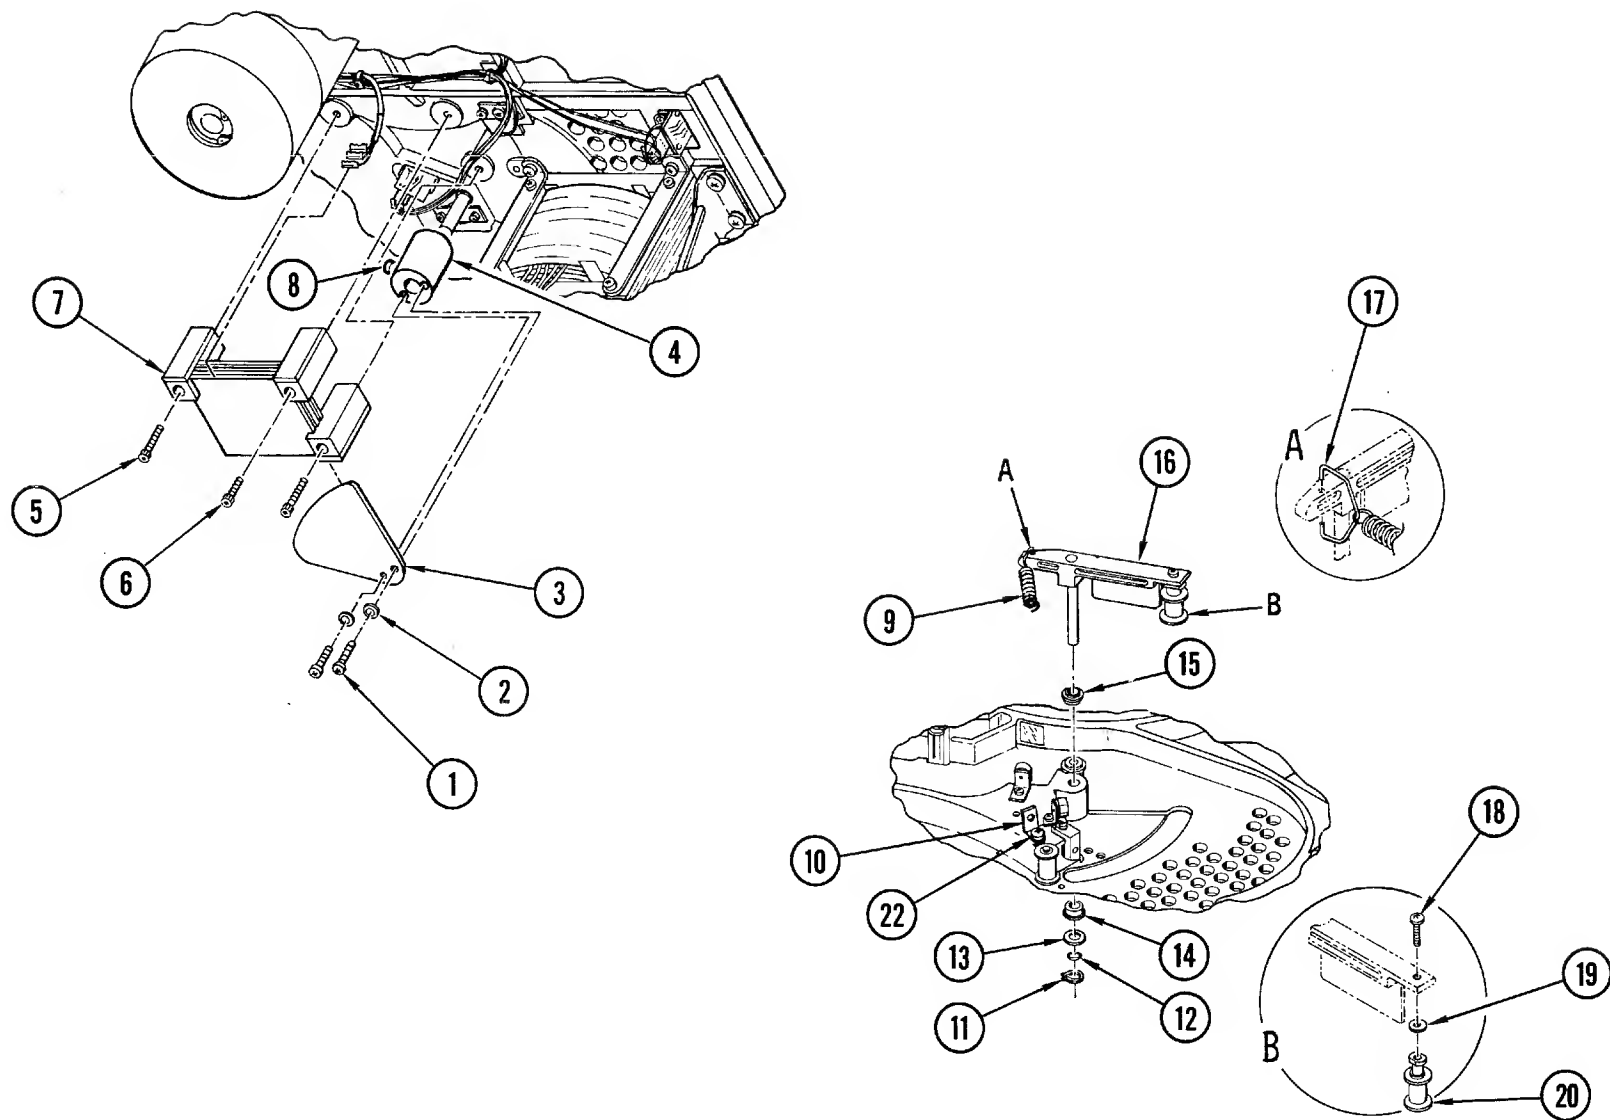

Figure 4-17. Compliance Arm and Air Capacitor Assemblies
4-30. Removal and Disassembly (Figure 4-17). Place the transport in service access position in accordance with instructions in paragraph 4-3. Proceed as follows:
- a. Replace defective parts and reassemble compliance arm assembly as shown in Figure 4-17, in reverse order of steps g through i, paragraph 4-30, observing the following special instructions.
- (1) Use attaching parts and shims saved from removal and disassembly as necessary.
- (2) Apply Lubriplate to bearing surfaces between clip (17) and arm (16).
- b. If bearing (14) or (15) was removed, apply small amount of Loctite 601 around outside of bearing and replace.
- d. Install shim (13), wavespring washer (12), and retaining ring (11) on bottom of shaft. Check wavespring washer (12) to see that it is compressed half of its height. If not, add shims (13) as necessary, checking compliance arm for freedom of movement.
- e. Slip hub (4) of capacitor shutter over end of compliance arm shaft, tightening socket head screw (8) just enough to hold hub on shaft.
- f. Mount air capacitor stator (7) to under side of top plate with one screw (1/2 - inch) (6), and two screws (5/8-inch) (5), applying Loctite 242 to screws before insertion.
- g. Slip blade (3) of capacitor shutter between two upper plates of capacitor stator (7), and attach to hub (loosen hub if required) with two screws (1), and flatwashers (2).
- i. Loosen hub socket head screw (8) slightly, rotate capacitor shutter blade (3) to within 0.1 inch of power supply housing, and adjust height of hub so that rotor blade does not bind on either plate of capacitor stator (7).